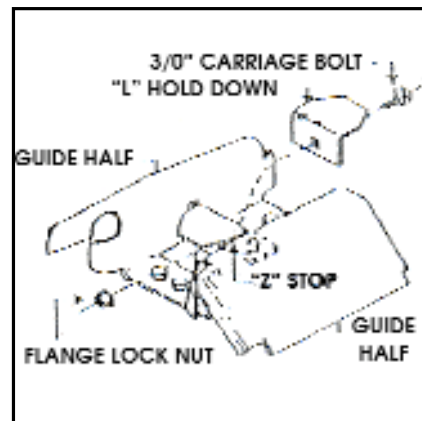

Figure 21
2. Secure half with lags. Finally attach "L" hold down to "Z" stop with 3/8" carriage bolt as show in Figure 21.